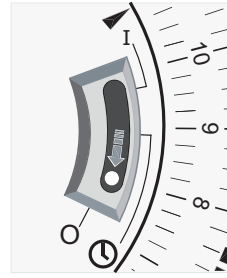
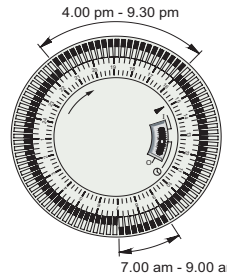

Fig. 4
Fig. 6
MODELS WITH TIMER - (see Fig. 4)
Set the I - ⌚ - O slide switch on the timer (Fig. 4) to:
1. Using your finger tip or the tip of a pencil, push in as many segments as necessary around the dial, according to the times you don't require heat – see Fig. 4. Each segment pushed in switches the heater OFF for that part of the hour. All other segments will be ON. For example, Fig. 6 shows the timer set to switch the heater ON between 7 am and 9 am and between 4 pm and 9.30 pm .
Check that the clock shows the correct time of day. Set the I - ⌚ - O slide switch to ⌚ (see Fig. 4) - the convector will switch ON and OFF according to the timer settings (see Fig 5).